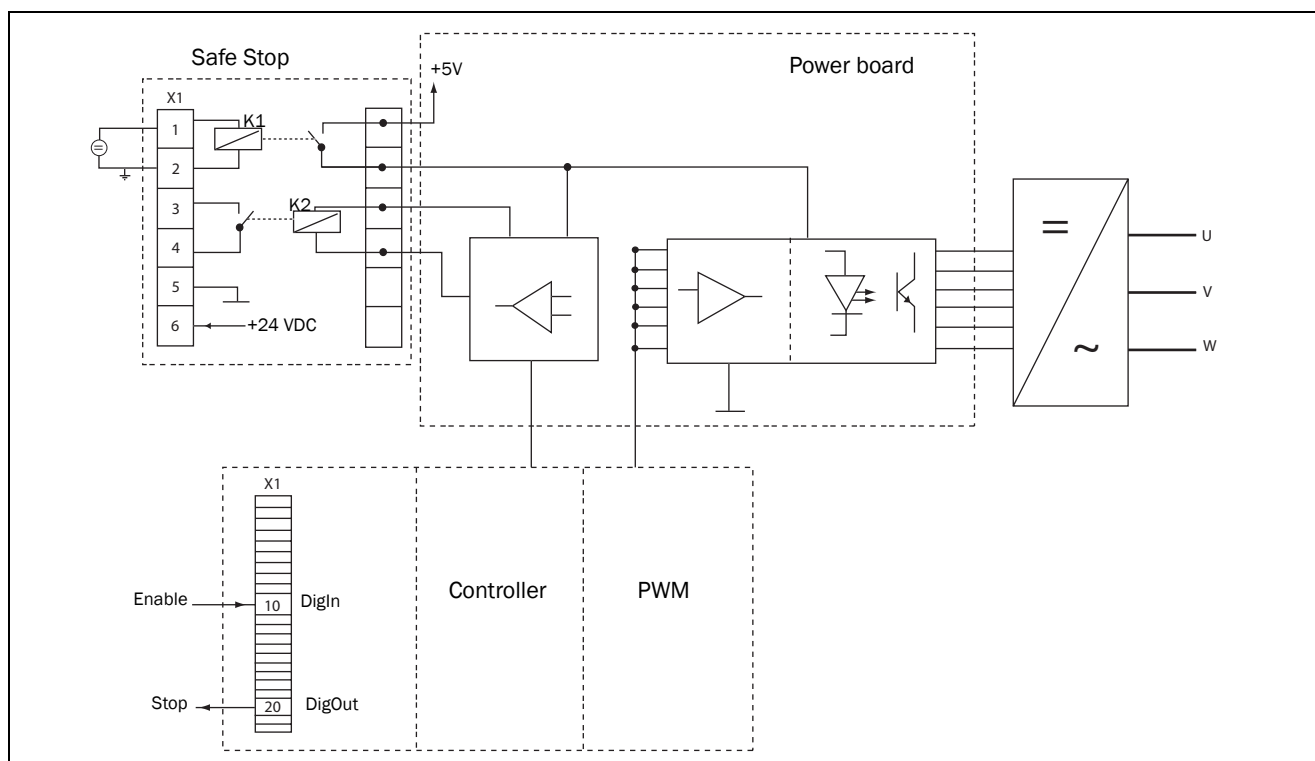

Fig. 122
- "Inhibit" input, terminals 1 (DC+) and 2 (DC-) on the Safe Stop option board should be made active by connecting 24 VDC to secure the supply voltage for the driver circuits of the power conductors via safety relay K1. See also Fig. 122.
- High signal on the digital input, e.g. terminal 9 in Fig. 122, which is set to "Enable". For setting the digital input please refer to section 11.6.2, page 118.
To monitor the "Enable" function, the selection "RUN" on a digital output can be used. For setting a digital output, e.g. terminal 20 in the example Fig. 122, please refer to section 11.6.4, page 123 [540].